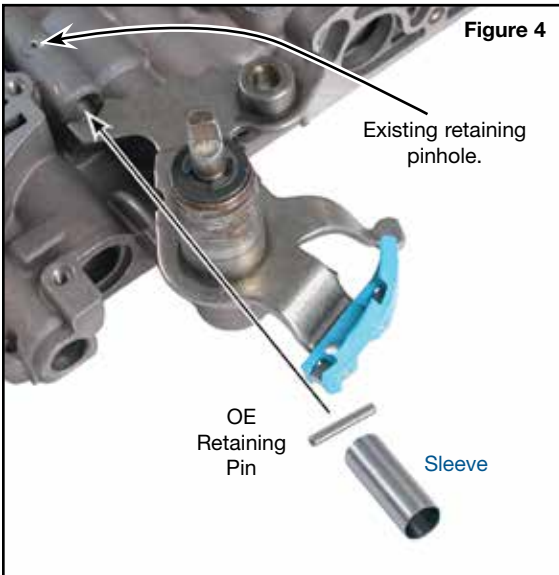

Figure 4
3. Install Detent Sleeve & Pin (Figure 4)